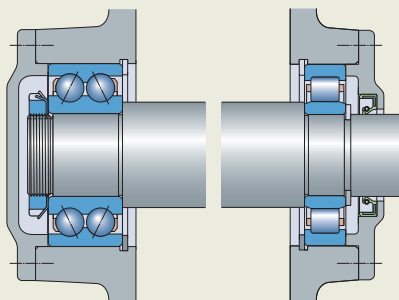

Fig. 6
- matched single row tapered roller bearings / NU or N design cylindrical roller bearing (fig. 6)